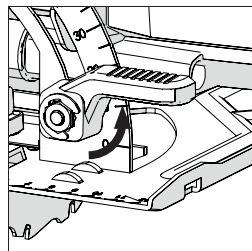

Fig. 13
- Loosen the Bevel Locking Mechanism found at the front of the machine, by pulling the lever upwards. (**Fig. 13**)